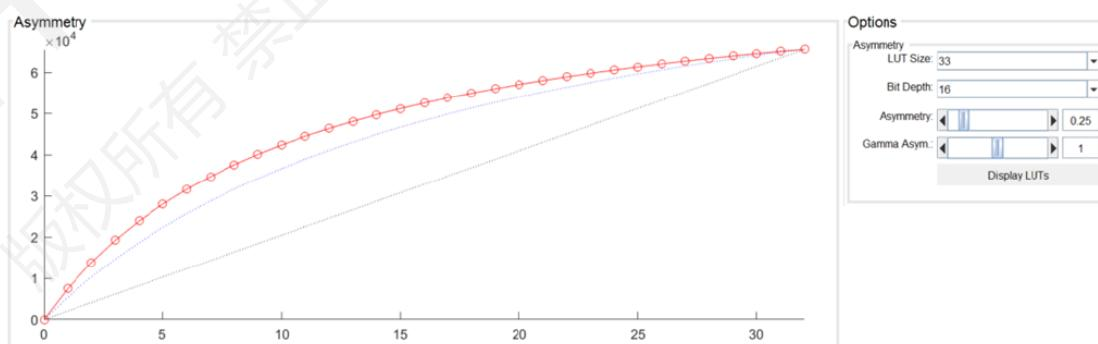

Figure 3.14-5 Iridix GUI.
1. Generation of the asymmetry LUT (Iridix\_LUT\_Asymmetry) can be done in two ways, the simplest being to use Calibration Tool where a GUI similar to Figure 3.14-5 is presented, allowing easy modification of the generated curve.